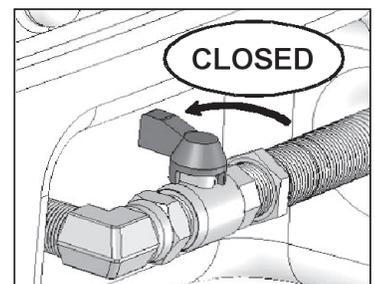

Figure 3
- a. Close ball valve by turning the handle counter-clockwise until it stops in 90° position as shown in Figure 3.